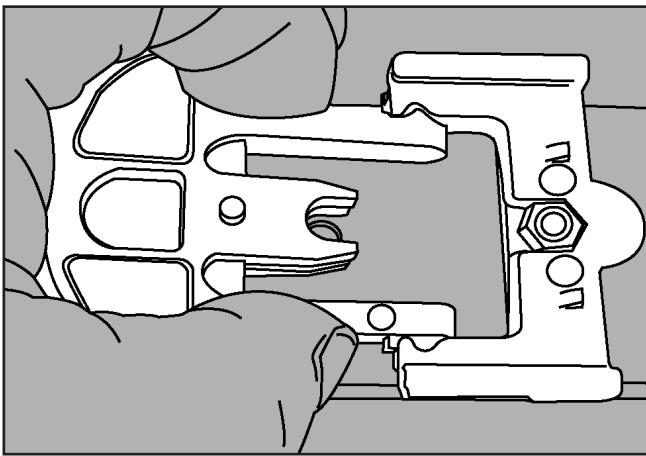

Figure 22
22. Replace the SLIDE-N-LOCK SPLICE tray with the spliced fibers securely back in the SLIDE-N-LOCK Bracket. (Figure 22)